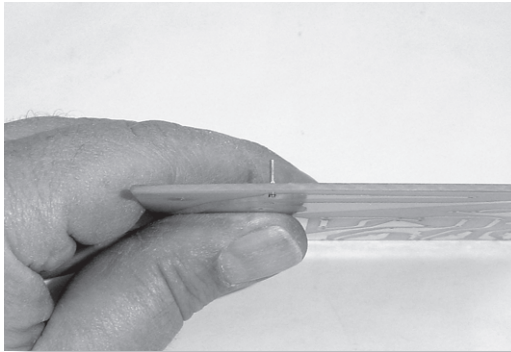

FIGURE 5.21 A terminal pin goes from the copper track side of a printed circuit board, to the component side.
- **INSERT** a terminal pin into the printed circuit board — note that the pin goes through from the copper foil track side of the printed circuit board to the component side of the board ie, the connecting lead will be soldered to the component side **NOT** the copper track side (see Figure 5.21).